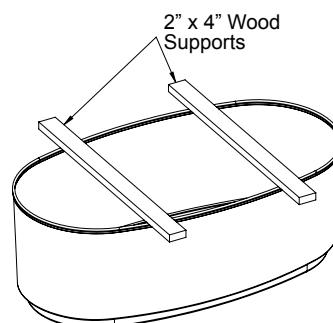

Fig. 8
- 3** Place (2) four foot long 2" x 4" wood supports across the top of the skirt. Position the wood supports evenly over the skirt as illustrated (Fig. 8). They will support the bathtub during the connection of the water supply lines and the electrical connection.